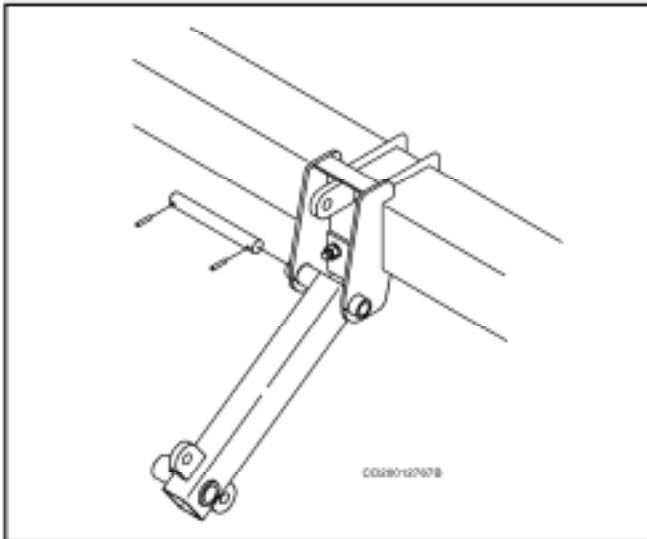

Figure 28 Mounting Pivot Arm
1. Attach pivot arm, using pin and two 5/16 x 1-5/8" roll pins as shown in Figure 28.